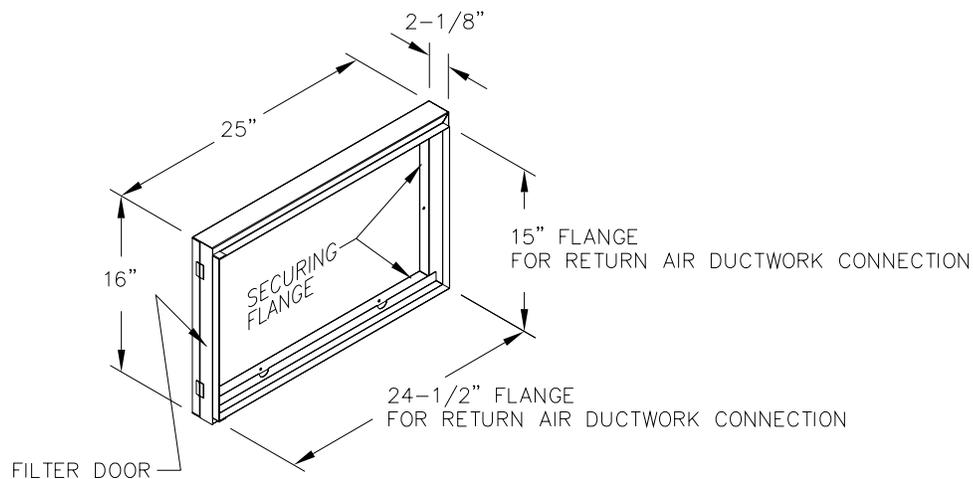

Fig. 5: A typical filter rack and dimensions for the OH5-85DXE* furnace.**
The filter rack provided with the furnace, refer to Fig. 5, will serve as a template to scribe a mark for the return air opening on the casing. Place the filter rack on a side casing approximately one inch up from the bottom of the furnace and centered from side to side. Place the securing flange against the casing when locating the return air opening. For your convenience, (4) locator knock-outs have been placed at the proper locations on both the left and right side casings.
Connect the return air plenum to the filter rack and slide the filter into place. Dimensions for adapting the return air plenum to the filter rack are provided (See Fig. 5).